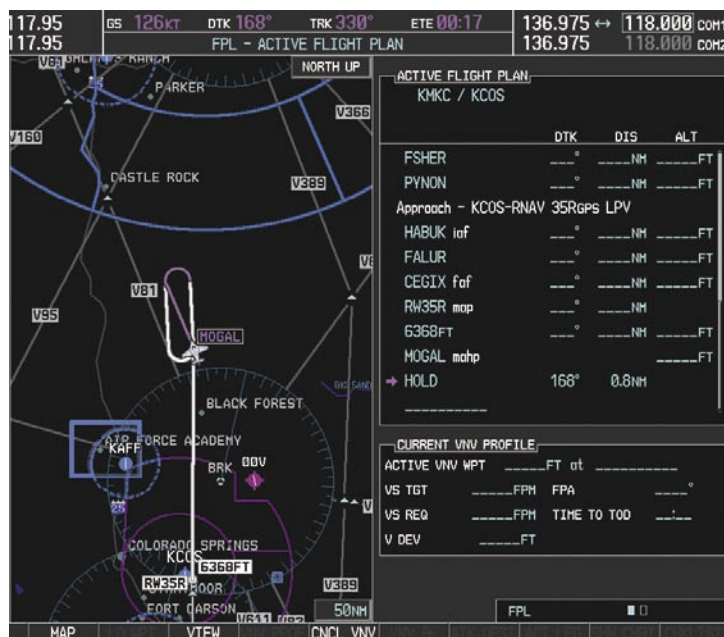

Figure 5-140 Establishing the Holding Pattern
- 26) The aircraft continues climbing to “AT or ABOVE” 10,000 feet at MOGAL. A holding pattern is established at the MAHP (MOGAL) as shown in Figure 5-140.